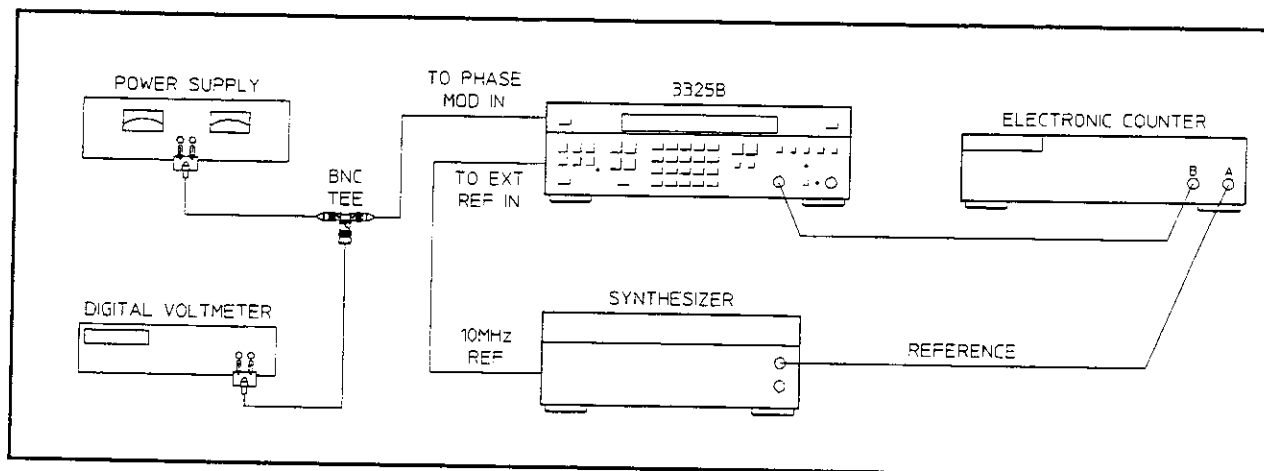

Figure 4-13. Phase Modulation Linearity.
- a. Connect the equipment as shown in figure 4-13.